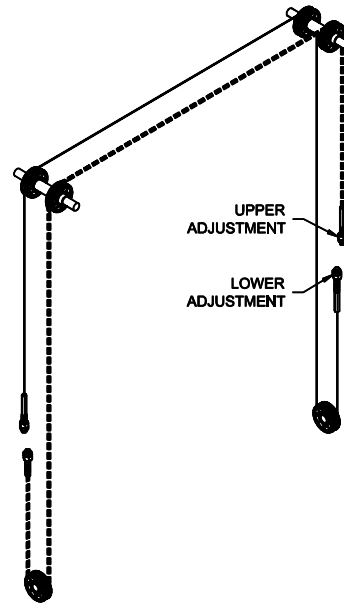

Fig 7a – Cable Routing
- 18) Manually raise the carriages approximately 32 inches to gain access to the cable-tie-off tabs located on the carriage ladder. Insure that the top of the hydraulic cylinder is out of the way but still retained in the opening of the top plate of the carriage as shown in **Fig 7a**.
- 19) Route synchronizing cables using **Fig 7a** and attach ends to cable-tie-off tabs using **Fig's 7b & 7c**.